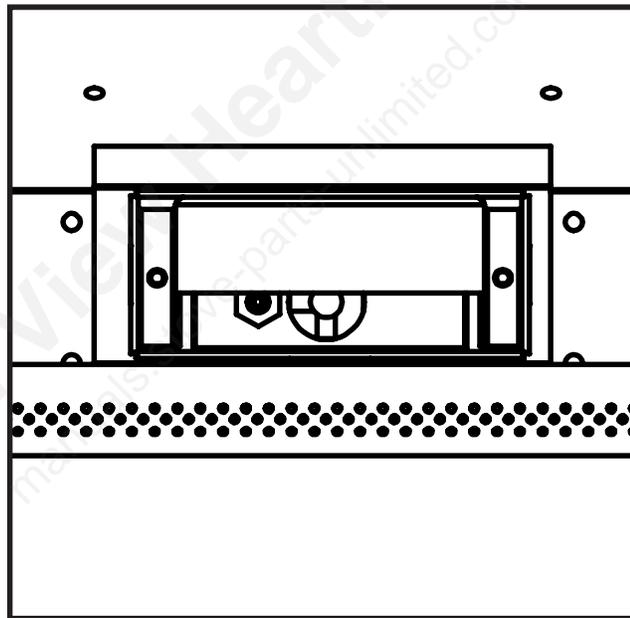

Figure 24. Ignitor assembly beside the burner.
10. Reinstall the burner, brick panels, log set, embers, and glass door. Also refer to SECONDARY INSTALLATION - INSTALLING LOG SET AND EMBERS in your Owner's Manual. When re-installing the burner, ensure that the burner to pilot hood relationship is similar to what is shown in Figure 24.